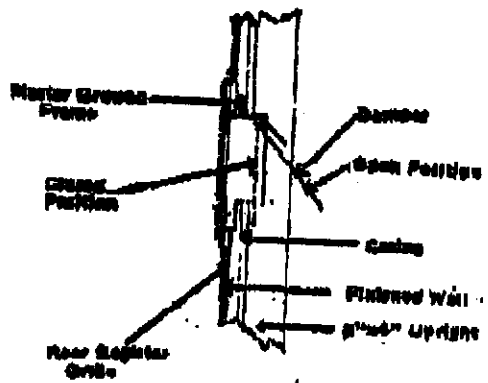

FIG. 3
- STEP 3. REAR REGISTER INSTALLATION:** Remove knock-out plates in inner and outer casing as follows: (Fig. 3) Push in lower corners with screwdriver blade. To break connecting tabs, hold screwdriver blade sideways against tabs and strike head of screwdriver lightly with a hammer. Break side and bottom tabs, then swing plate outward and bend back and forth to break top tabs. Follow instructions for installation of regular furnaces.